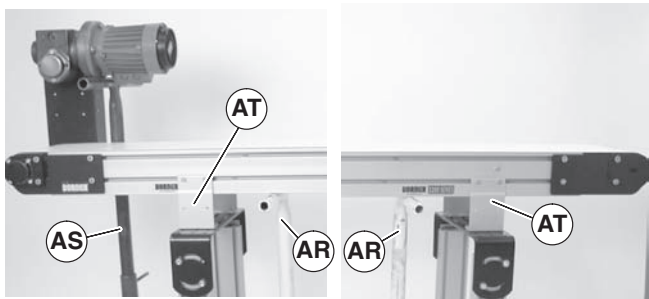

Figure 21
- Place temporary support stands (Figure 21, item AR) at both ends of the conveyor. Place an additional support stand under the drive motor (AS), if equipped. See WARNING.
- Remove mounting brackets (Figure 21, item AT) from one side of conveyor. (Reverse steps 3 & 4 of "Mounting Brackets" section on page 9).
- Ensure temporary support stands (Figure 21, item AR) are placed at both ends of the conveyor. Place an additional support stand under the drive motor (AS), if equipped. See WARNING.